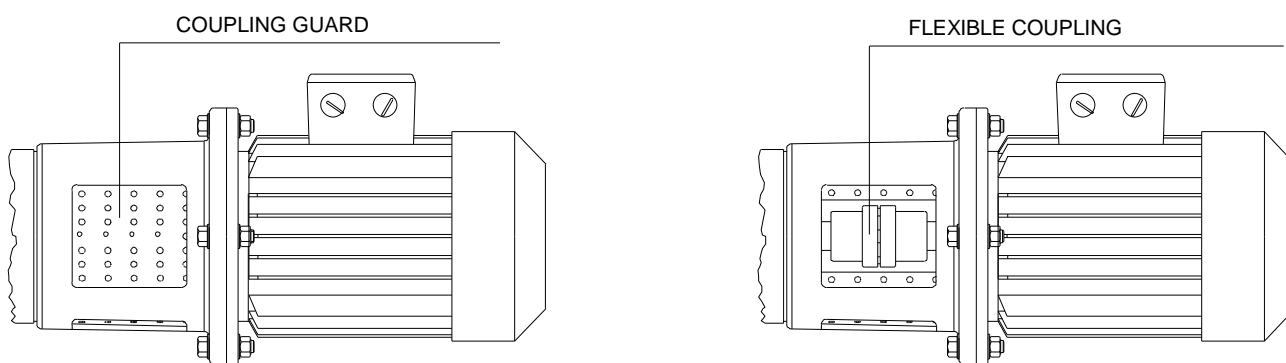

Fig. 8 - CHECKING THE ALIGNMENT ON MONOBLOCK DESIGN
- 3 - Applying slight hand pressure to the coupling guard, rotate it so that one opening of the lantern is accessible (see fig. 8).